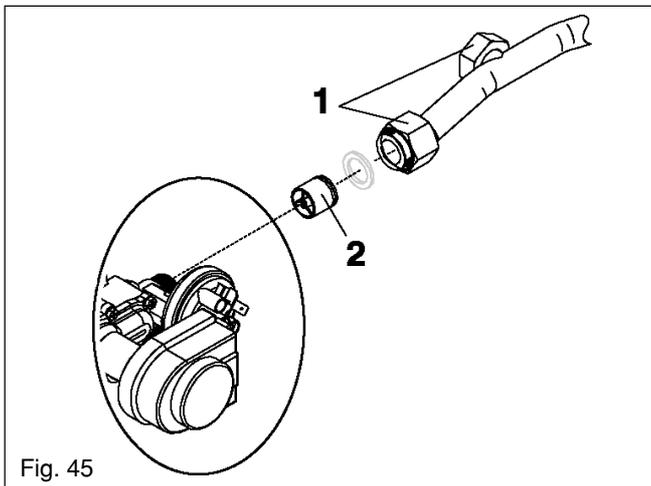

Fig. 45
6.25 AUTOMATIC BYPASS (see fig. 45)